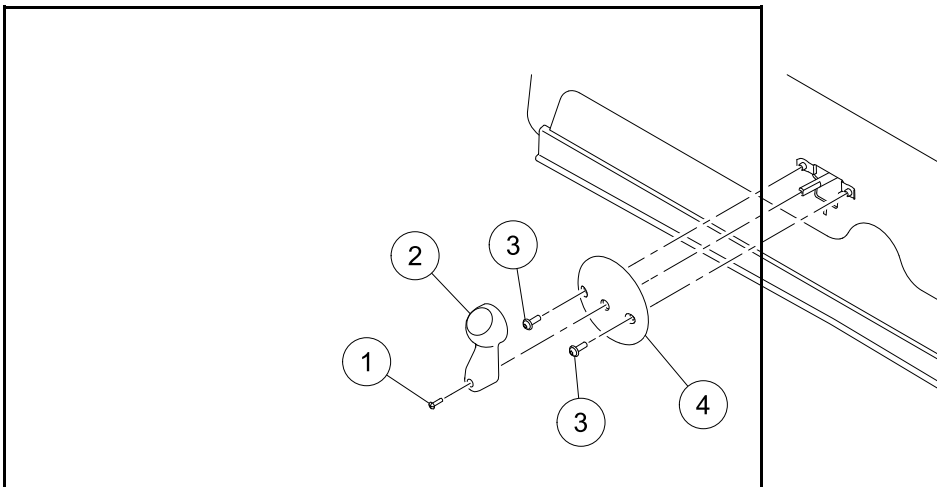

Figure 18-16 Forward/Neutral/Reverse Handle
1. Remove the bolt (1) from the Forward/Neutral/Reverse handle (2) (**Figure 18-16, Page 18-14**).
2. Remove the bolts (3) from the bezel (4).
1. Install the bezel (4) and the bolts (3). Tighten the bolts to 22 lb·in (2.5 N·m) (**Figure 18-16, Page 18-14**).
2. Install the Forward/Neutral/Reverse handle (2).
3. Install the bolt (1). Tighten the bolt to 15 lb·in (1.5 N·m).